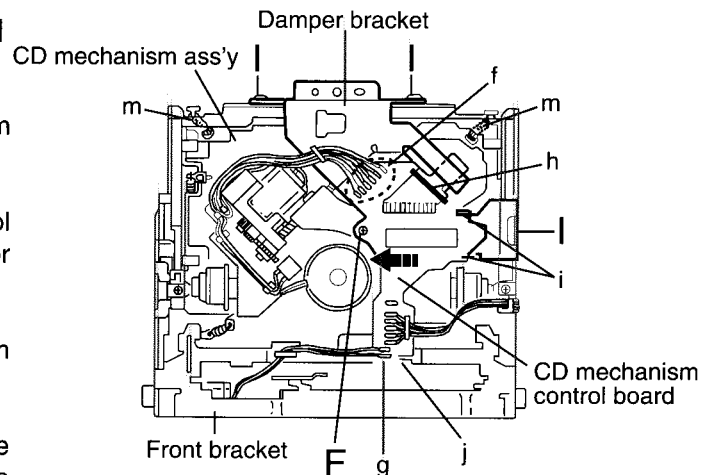

Fig.1
■ **Removing the CD mechanism control board (See Fig.1 and 2)**
(See Fig.1, 6 to 9)